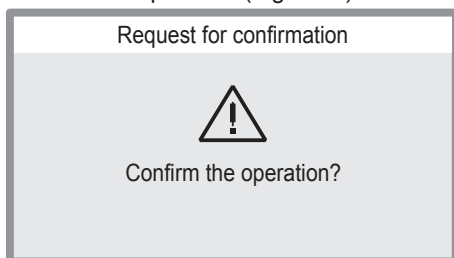

Fig. 7.22
- Press key 14 and wait 1 second.
- Press key 14 again.
- Press key 15 to reset the fault or key 16 to cancel the operation (Fig. 7.22).